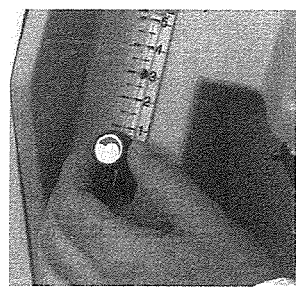

Figure 3
8. Set the flowmeter adjustment knob to your prescribed lpm **(Figure 3).**